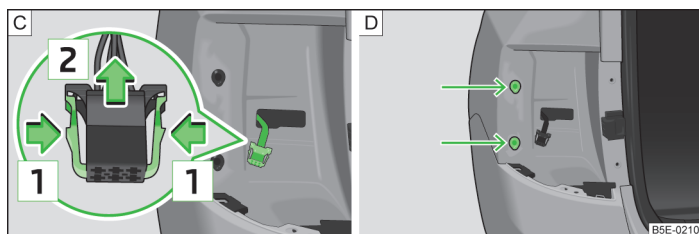

Fig. 224 Installing the lamp connector/lamp
- Press together the interlocks on the connector in the direction of the arrow [1] » Fig. 224 - [C].
- Insert the light vertically into the mounts on the bodywork » Fig. 224 - [D].